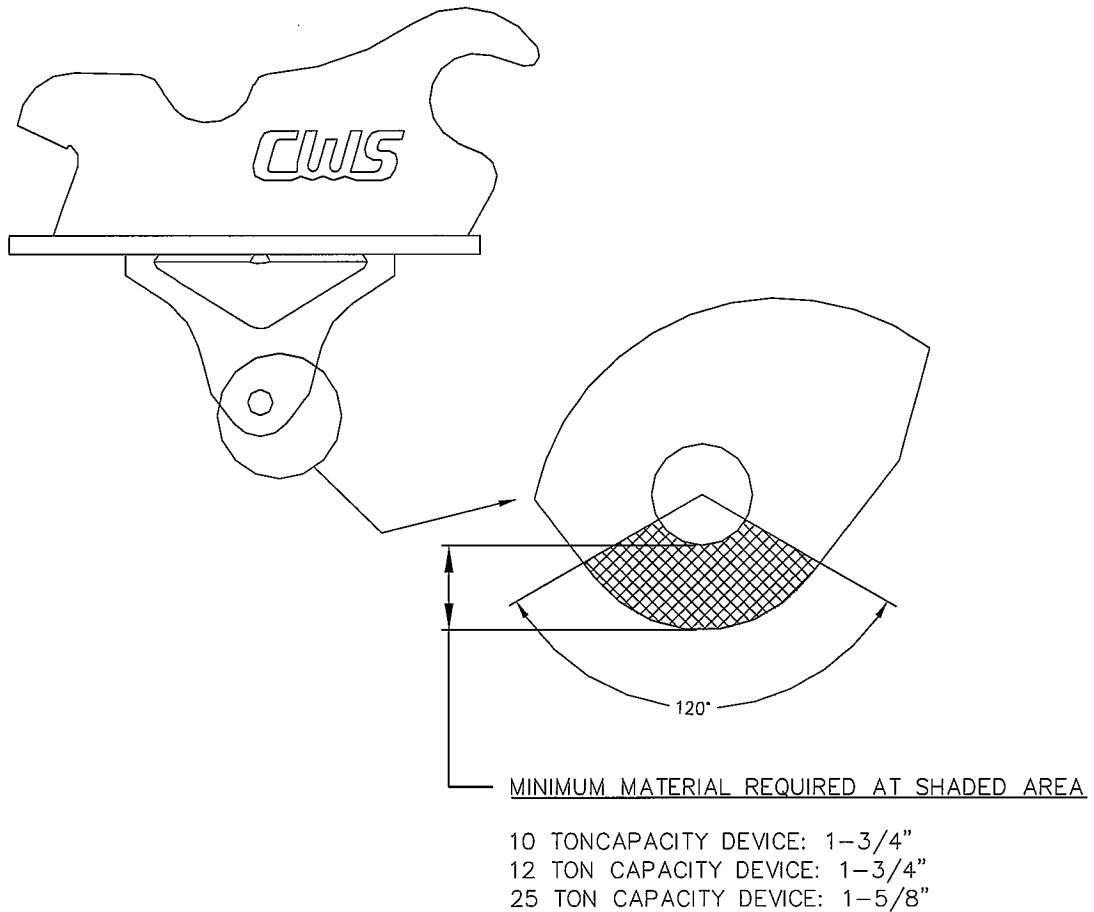

Figure 1. Wear Limits
- Never use the Lifting Device that is worn beyond the limits shown in Figure 1 of the Operating Manuals. Contact CWS Engineering Department for safe refurbishing procedure if applicable.